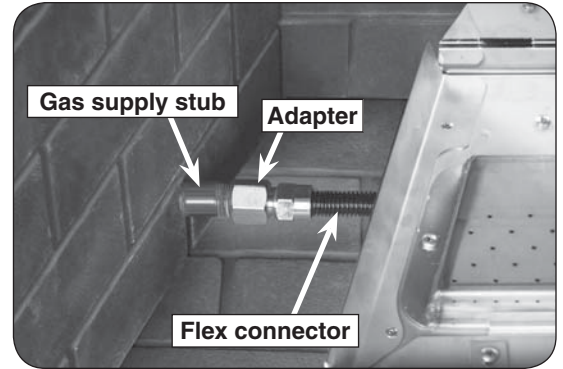

Fig. 9-1 Connect gas supply
2. Locate the gas-supply stub inside the fireplace and remove the cap, if attached (reference Fig. 9-1).
4. **Be sure gas to the fireplace is off.** Remove the adapter connected to the flex connector (pre-installed on the burner system). Attach the adapter to the gas-supply stub using a pipe compound resistant to all gasses. Tighten securely. Then attach the open end of the flex connector to the adapter. Tighten securely (See Fig. 9-1).